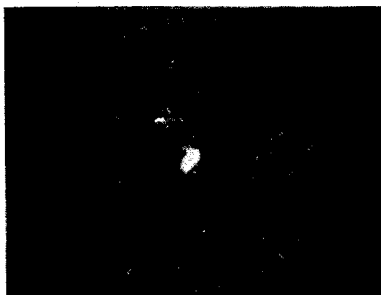

Fig. 5-7-2
- o Set the SW1 (ABC TEST SWITCH) on the Auto (A) board to ON position.
- o Observe the vectorscope and adjust VR2 (G ABC) and VR3 (R/B ABC) on the Auto (B) board so that the vector on the vectorscope get into center position on the vectorscope. (Fig. 5-7-2)